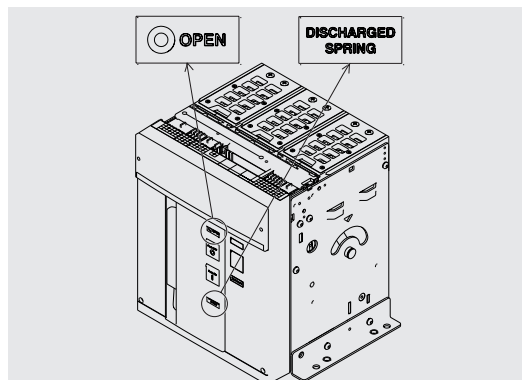

Figure 25
1. Check that the circuit-breaker is open (open / closed indicator "O - OPEN"), and check that the springs are unloaded (spring signalling device "white - DISCHARGED SPRING") as indicated in Figure 25.